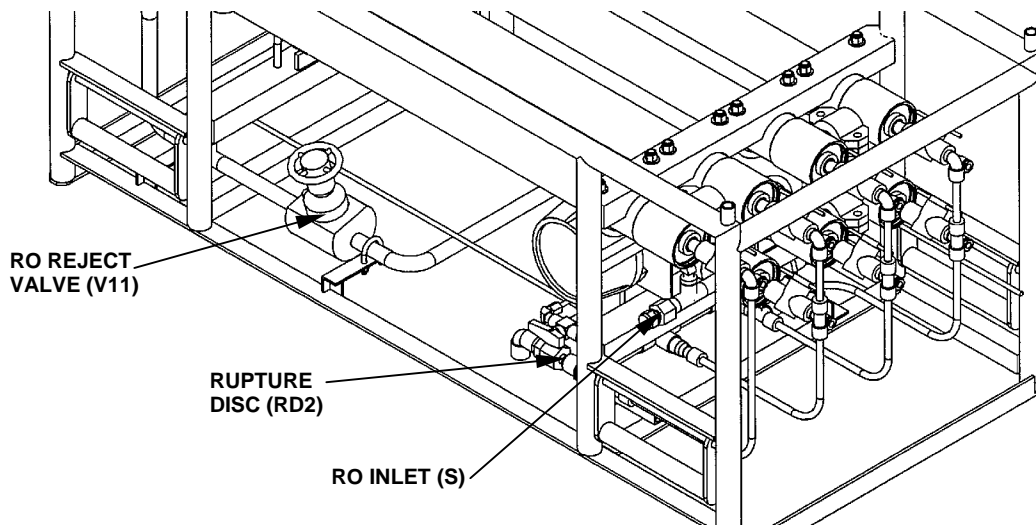
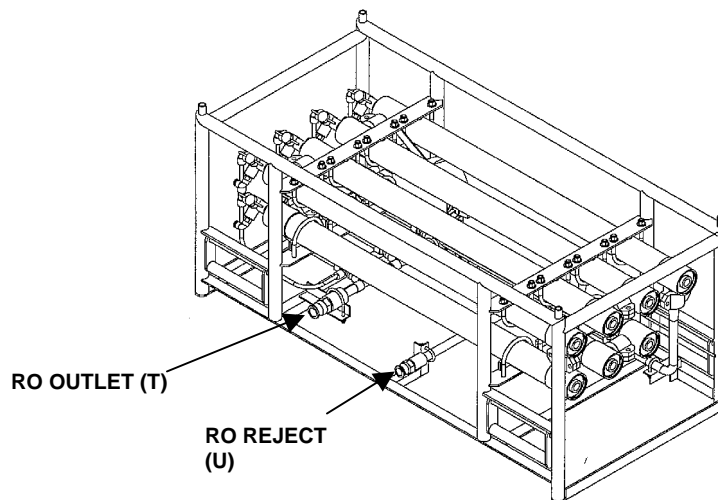

Figure 10. RO Module High-Pressure Inlet Hose Connection.
Figure 11. RO reject and Product Hose Connection.
18. Connect the other end of high-pressure hose (braided steel) to the RO module inlet. Tighten securely. See Figure 10.
22. Connect a reject hose (red) to the RO reject outlet. See Figure 10 and Figure 11.
25. Connect a section of potable water hose (white) to the outlet on the RO module. See Figure 1 and Figure 11.
3. Open reject control valve (V11) on the RO element module. See Figure 10.